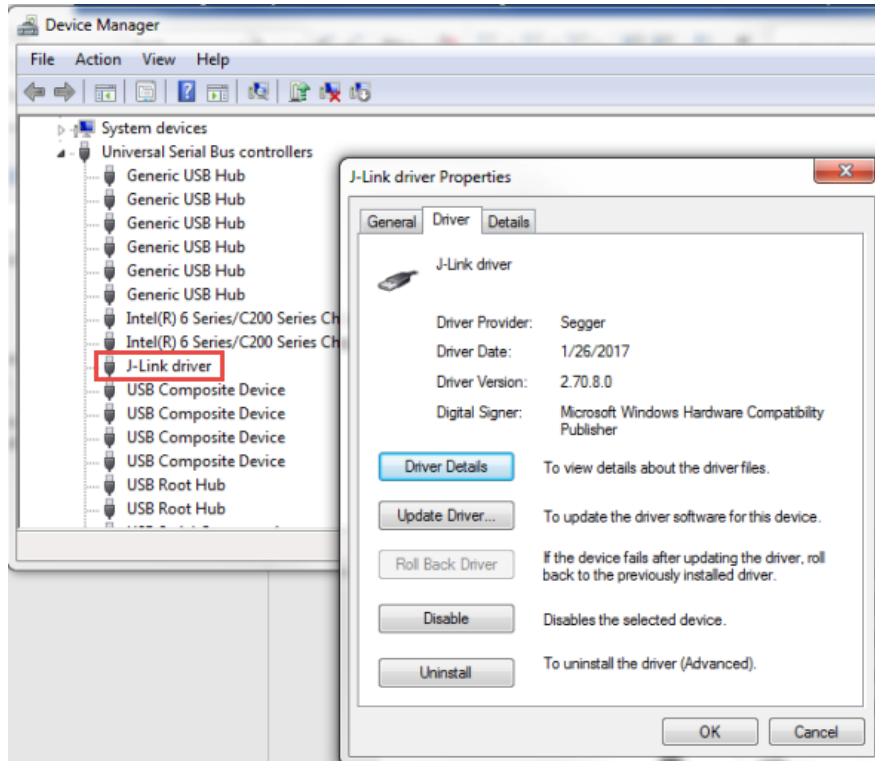

Figure 2-2. Device Manager Listing J-Link Device
2. Once the software is installed, connect J-Link to the kit’s debug connector and then plug the J-Link into a USB port on the computer. When USB enumeration completes, the J-Link device should appear on a Windows PC in the Device Manager as Figure 2-2 shows.